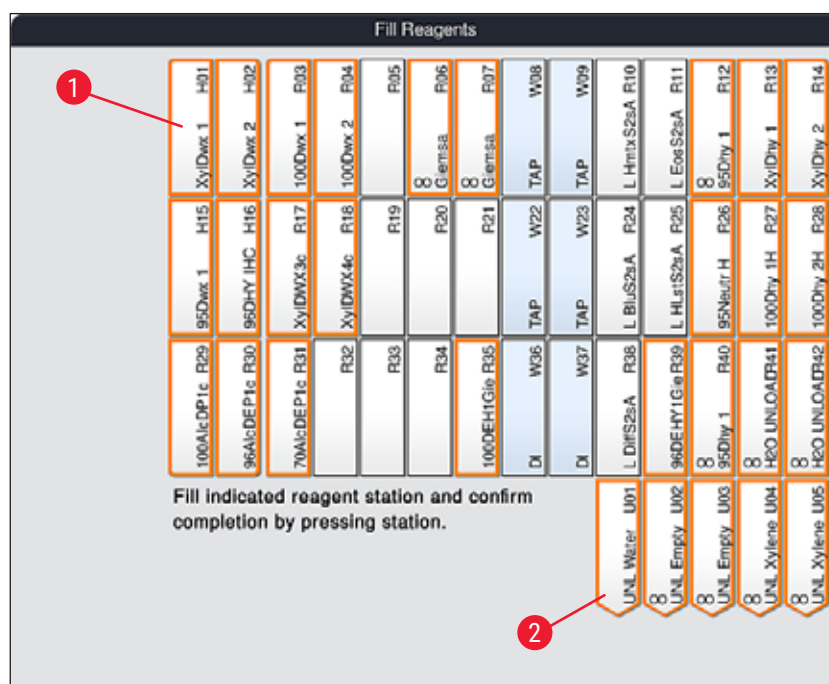

Fig. 56
- In the new **Fill reagents** (→ "Fig. 56") window, the stations to be filled are marked in orange (→ "Fig. 56-1").
Only user-defined and added reagents of Leica staining programs are displayed with an orange marking (→ "Fig. 56"). The reagents from the Leica reagent kit are subsequently scanned (→ P. 78 – Filling the Leica reagent kit reagents).